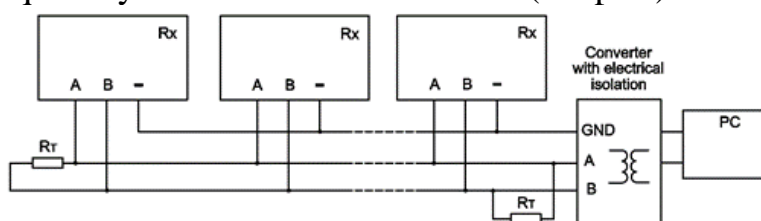

Figure 2.12 – The diagram of connection of the remote PC to the sensors via the interface RS-485
- 2.3.8.12.1 A three wire variant of the interface RS-485 and a converter with electrical isolation are required to connect the remote PC to the sensors. It is recommended to use the interface converter USB/RS-485 with isolation MOXA UPort 1130i to as the converter. The diagram of connection of the remote PC to the sensors via the interface RS-485 is given in Figure 2.12.